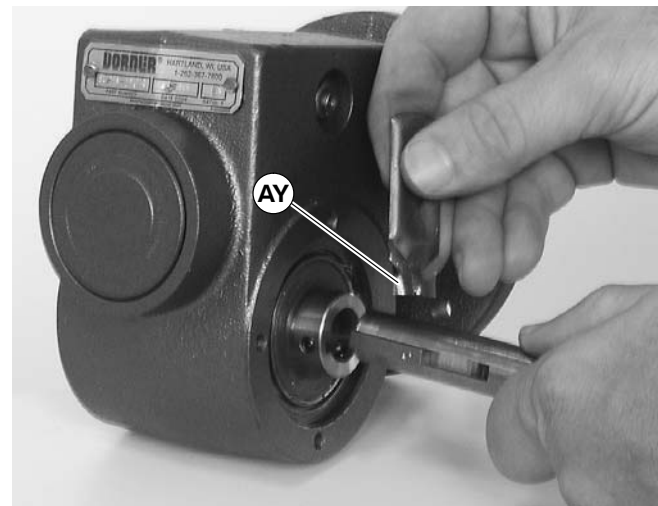

Figure 30
12. Apply grease (AY of Figure 30) to shaft.